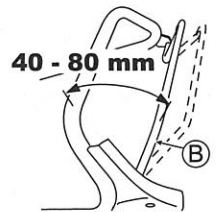

Fig. 27
Adjust so that the machine runs (the drive clutch gets engaged) when the distance between Drive clutch lever (B) and the handle is 40 - 80 mm as shown in Fig. 27.